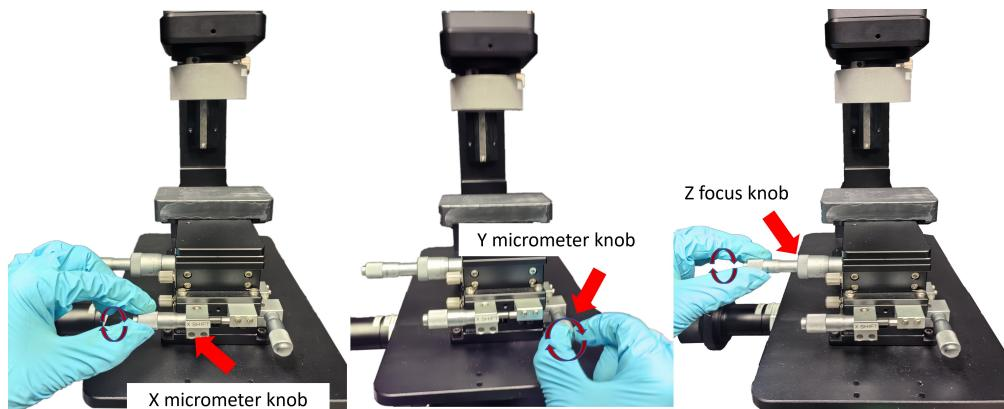

Figure 41: Use the X, Y micrometer knobs to move the sample laterally and the focus knob to bring the sample into focus.
- Use the X and Y micrometer knobs (Figure 41) to translate the sample.
- Use the Z focus knob (Figure 41) to adjust the focal plane. Avoid bringing the objective too close to the coverslip to prevent damage.